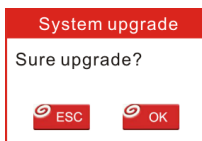

Figure 8
- Once all steps are complete, reinsert the TF card into the tool and power the tool via USB in computer or via OBD2 port in vehicle. The tool will prompt you to upgrade, click "OK" to start updating and a progress bar will appear. It may take several minutes to finish update if your upgrade package file is too large, please wait. (Figure 8)